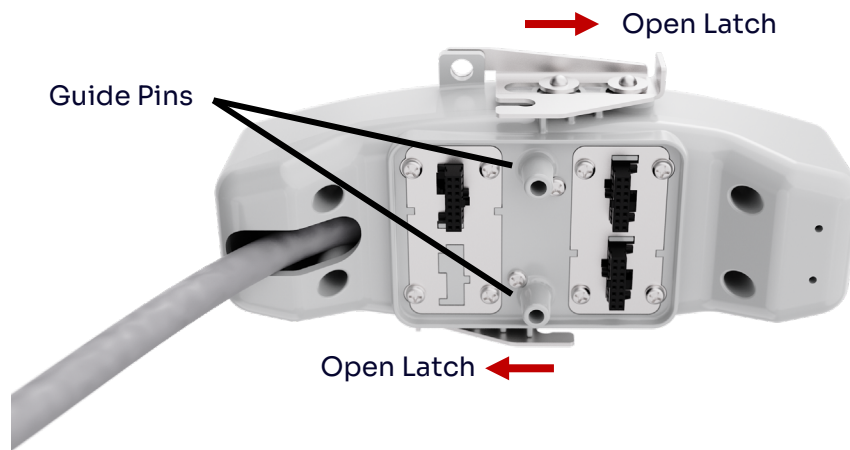

Figure 24. Connection Module Guide Pins and Latches.
20. Note the guide pins on the bottom of the Connection Module, circled in Figure 24. Slide the front and rear latches to the open position.